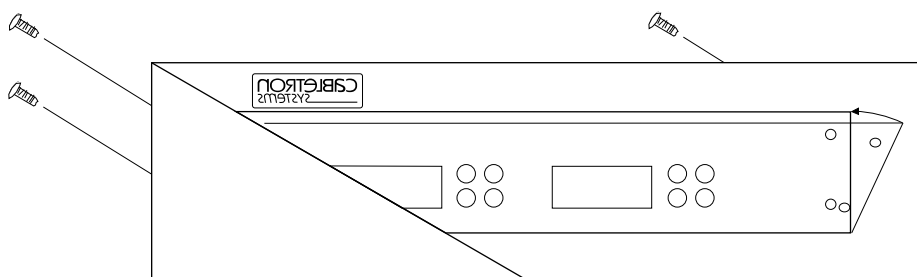

Figure 3. Installing the new face plate (view from inside chassis)
5. From the inside of the chassis, line up the four holes in the expansion module's face plate with the corresponding holes around the empty expansion slot in the chassis, and use the phillips-head screwdriver to tighten the screws (from the front) on each side of the expansion module's face plate to affix it to the chassis. (See Figure 3, below.)